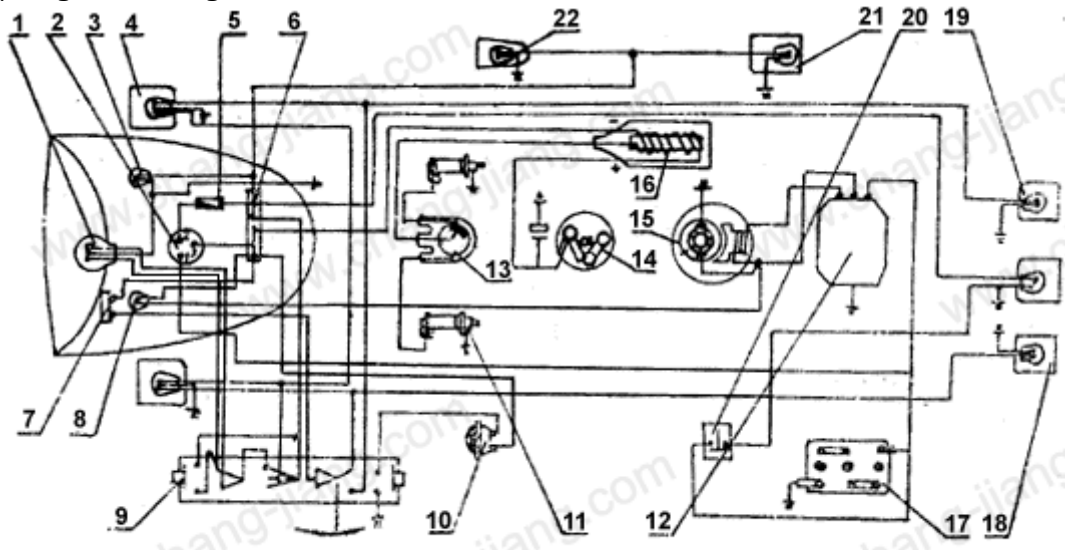

Fig.14 Circuitry of Motorcycle Powered by Engine CJ-750
5.1.1 Generator complemented with engine CJ-750 is a positively grounded DC generator MZF-12, whose rated power is 65w, rated voltage is 6v. The motorcycle circuitry is given in Fig 14.